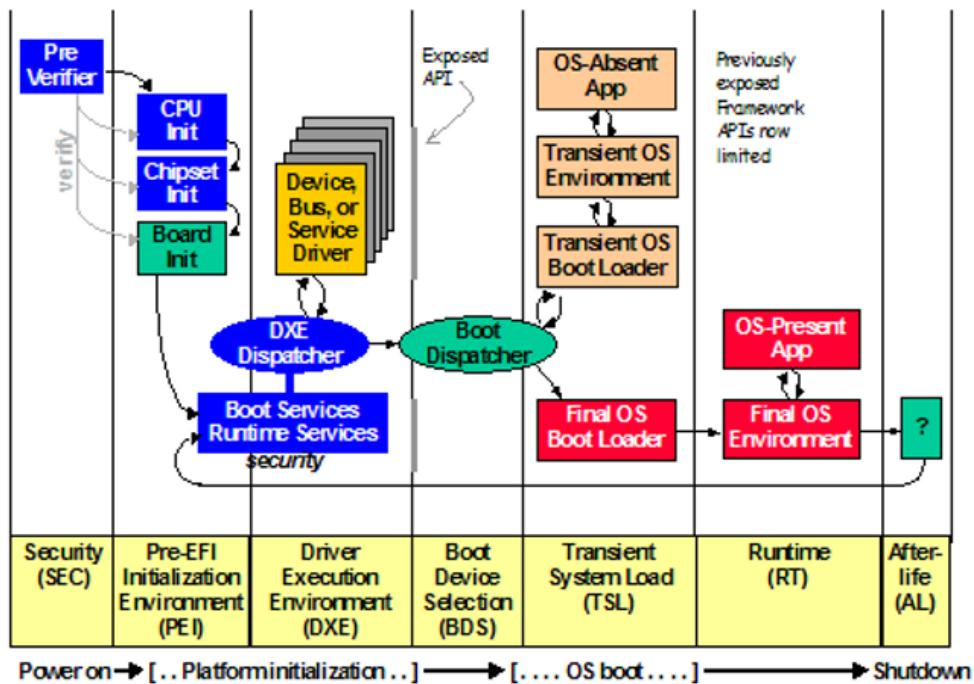

Figure 3. PI Firmware Phases
PI compliant system firmware must support the six phases: security (SEC), pre-efi initialization (PEI), driver execution environment (DXE), boot device selection (BDS), run time (RT) services and After Life (transition from the OS back to the firmware) of system. Refer to Figure 3 below.